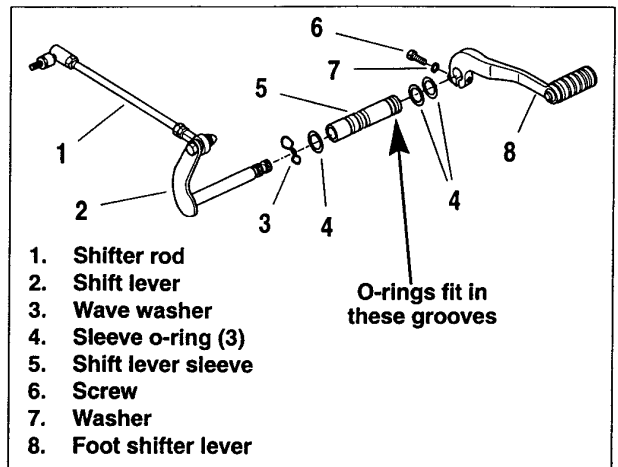

Figure 1-23. Shift Lever Assembly (All But FXDWG)
6. All models except FXDWG: see Figure 1-23. Inspect two o-rings (4) in grooves on end of shift lever sleeve (5). Replace if damaged or worn.